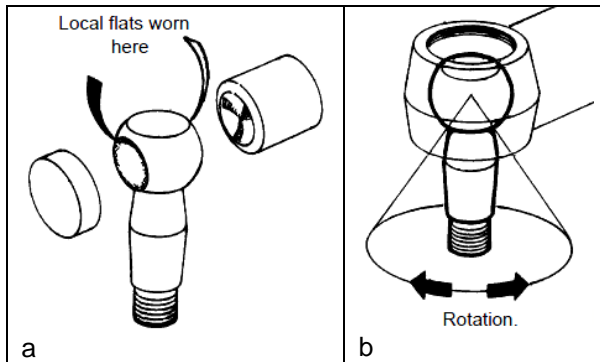

FIGURE 25: BALL PIN HAS LOCAL WORN FLATS
If ball pin does not rotate when re-adjusted in line with above instructions, this suggests that ball pin has local worn flats as shown in FIGURE 25 (a). In this instance ball pin, thrust cup and rubbing pad **MUST** be replaced, if not **FAILURE** could occur in service, i.e. ball pin not being able to move in assembly when turning from lock to lock as shown in FIGURE 25 (b).
**NOTE:** If ball pin does not rotate when re-adjusted in line with above instructions, this suggests that ball pin has local worn flats. In this instance ball pin, thrust cup and rubbing pad **MUST** be replaced, if not **FAILURE** could occur in service, i.e. ball pin not being able to move in assembly when turning from lock to lock (see FIGURE 25).